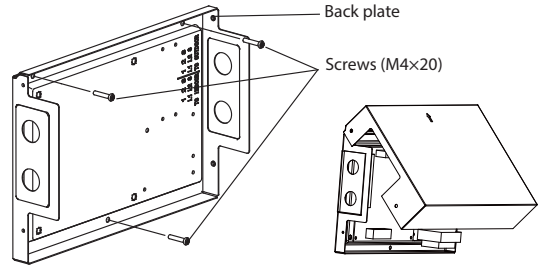

Fig. 7 —24V Interface Kit
2. Mount the 24V INTERFACE KIT horizontally (see Fig. 7), by fastening the back plate to the wall with 3 screws (M4x20) and anchors.